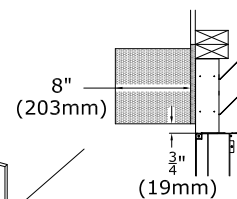

Figure 5.3 - Non-Combustible Mantel or Surround Projections - Standard Installation Design
- **Noncombustible Mantel Projections:** As referenced in Figure 5.3, the 8" noncombustible mantel projection can start at 41-3/4" (1060mm) from the base of the fireplace. This measurements places the noncombustible mantel flush with the top piece of the finishing trim kit (#NK48-FTK) when installed.
- **Noncombustible Surround (top and sides of fireplace opening):** As referenced in Figure 5.3, the 8" noncombustible surround can be installed flush at the side and top finishing edge of the finishing trim kit. The drawing shows a 1" gap from the top and sides of the fireplace which allows for the installation of the finishing trim kit (#NK48-FTK).